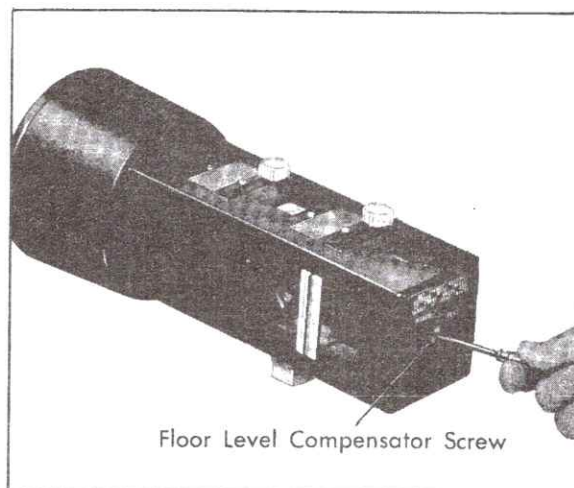

Fig. 12-5 Adjusting Floor Level Compensator
5. Turn floor level compensator on both aimers with screwdriver until adjoining dial reads same as dial on transit, Fig. 12-5.